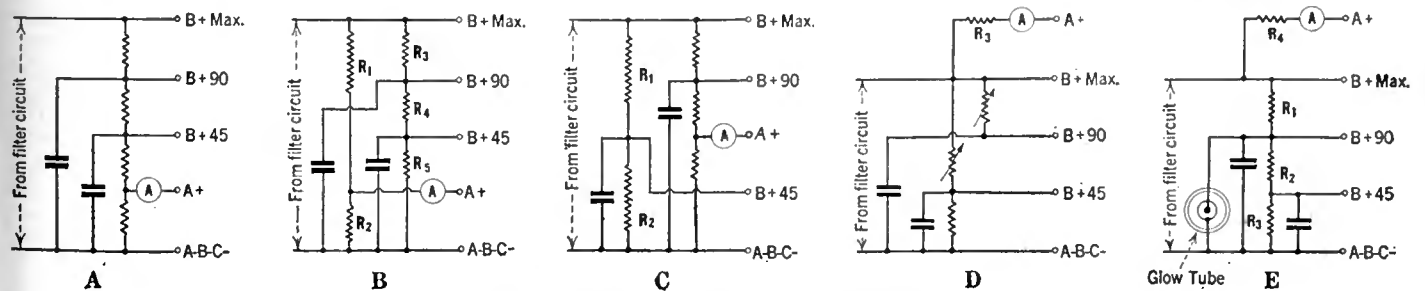
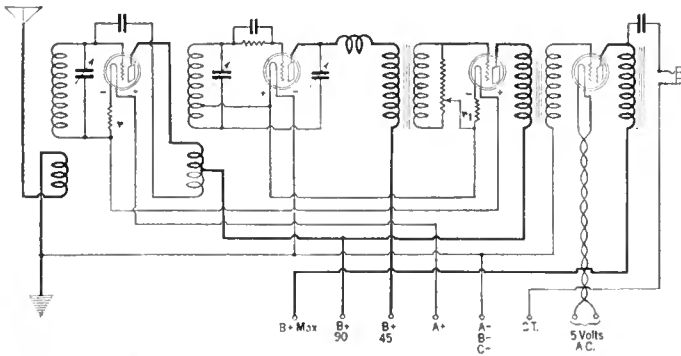
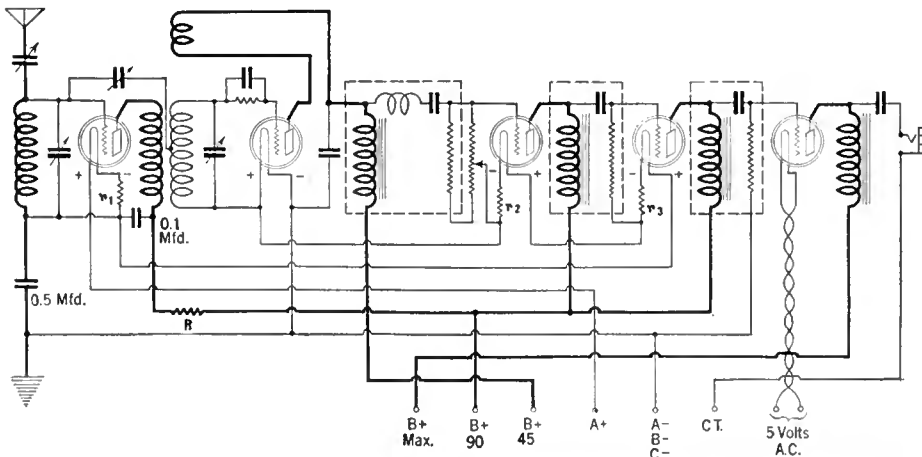

FIG. 1
FIG. 3
FIG. 5
using a five-tube receiver consisting of a stage of r.f. amplification, regenerative detector, and a three-stage double-impedance amplifier. A regenerative receiver using this type of amplification is frequently difficult to get working properly with a power-supply unit because of a marked tendency to "motor-boat," and it was felt that, if this receiver could be made to function satisfactorily with an A,B,C power unit, any other receiver would surely work satisfactorily. It was found that the receiver "motor boated" badly using the output circuit shown in Fig. 1, A, although when a two-stage transformer-coupled amplifier was substituted for the double-impedance affair, results were excellent. To prevent "motor boating" with the impedance amplifier, the output potentiometer circuits shown at B, C, D, or E, Fig. 1, had to be used.
brought down to two a.c. filament terminals, and it is absolutely necessary that the output circuit shown in the plate circuit of the 171 be used and that one side of the loud speaker jack connect to the center tap, CT, as indicated. The negative A should be grounded. No trouble should be experienced with this receiver due to "motor boating" and, for this reason, any output arrangement indicated in Fig. 1 may be used. However, in the event that the "Lab" receiver
In Fig. 3 we have a diagram of the new "Universal" receiver, described in RADIO BROADCAST for December, 1926, wired for a.c. operation. The order of filaments is the same as in the case of the "Lab" receiver, and the two resistances, r and r_1 , should each also have a value of 18 ohms. This receiver will operate satisfactorily using any of the output arrangements indicated in Fig. 1.
has been constructed using a different type of audio amplifier, such as an impedance- or resistance-coupled circuit, it will very likely be necessary to use a special output arrangement in the power unit to prevent "motor boating." Separating the detector plate voltage supply from the rest of the A and B circuits, as shown in B, Fig. 1, will generally eliminate the trouble, but if "motor boating" is very persistent it will be necessary to use the glow tube arrangement shown at "E" in Fig. 1.
a.c. neutrodyne receiver. The resistances r_1 , r_2 , and r_3 should each have a value of 18 ohms, which will give the two r. f. tubes and the first a. f. tube a grid bias of 4.5 volts. The receiver will function satisfactorily with any of the output arrangements indicated in Fig. 1.
Fig. 5 is the circuit diagram of the impedance-coupled Browning-Drake receiver which was described in the September, 1926, RADIO BROADCAST, now connected so as to be satisfactory for use in conjunction with A, B, C power units. The order of the filaments from the A plus terminal is r.f. tube first, second a.f. tube secondly, first a.f. tube third, and detector finally. The resistance r_1 should have a value of 12 ohms; r_2 should have a value of 4 ohms, and r_3 , a value of 12 ohms. The negative A should be grounded and should also connect through a 0.5-mfd. fixed bypass condenser to the lower side of the coil in the antenna circuit. It is unlikely that this receiver will give satisfactory results with the output circuit arrangements of the power unit shown at "A," "B," or "C," Fig. 1. For this set it will be preferable to use the circuit arrangement indicated at "D" or "E."